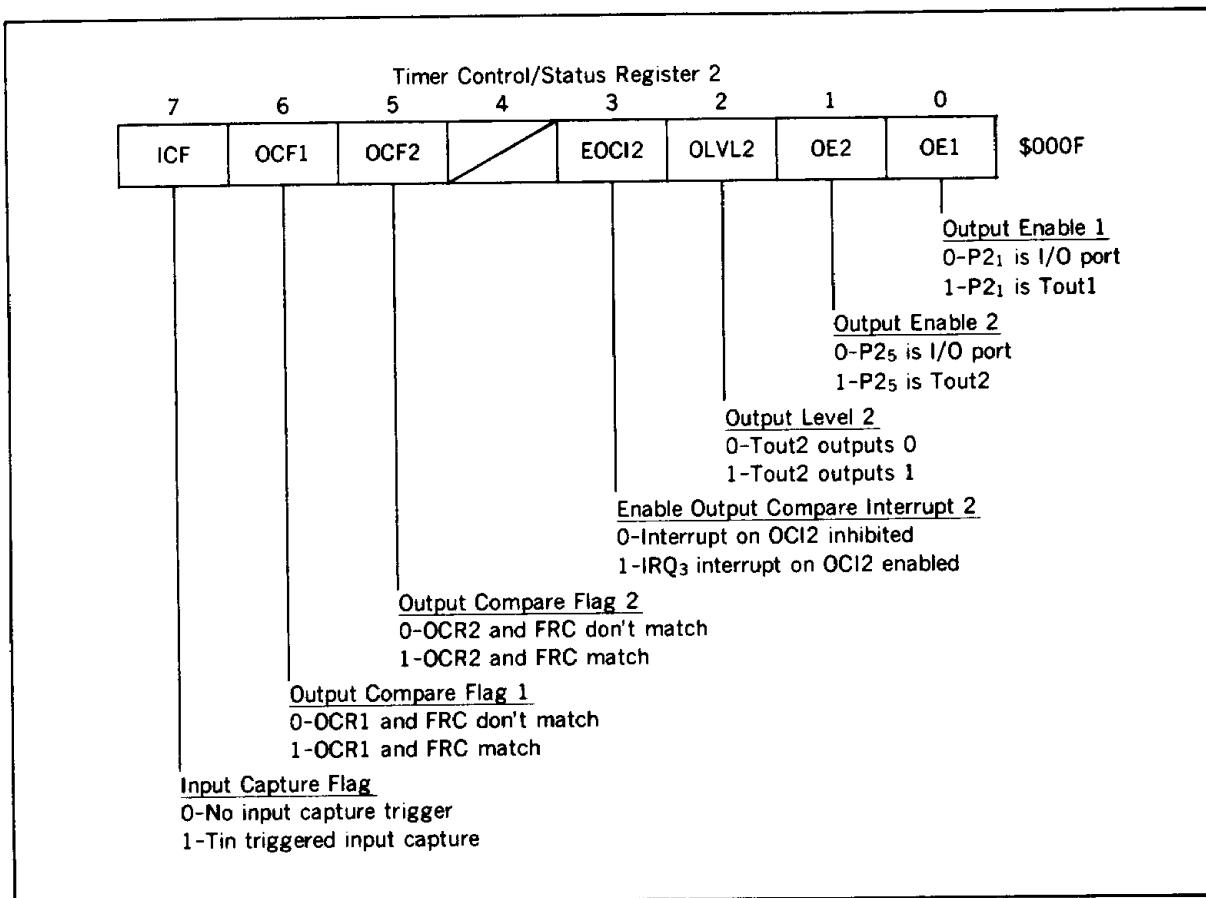

Figure 28. Timer Control/Status Register 2
**Timer Control/Status Register 2** : The timer control/status register 2 (TCSR2 : \$000F ; figure 28) is a seven bit register. All bits can be read and the lower four can be written. The upper three are read-only status bits. All bits are cleared at reset, except bit 4, which isn't used.